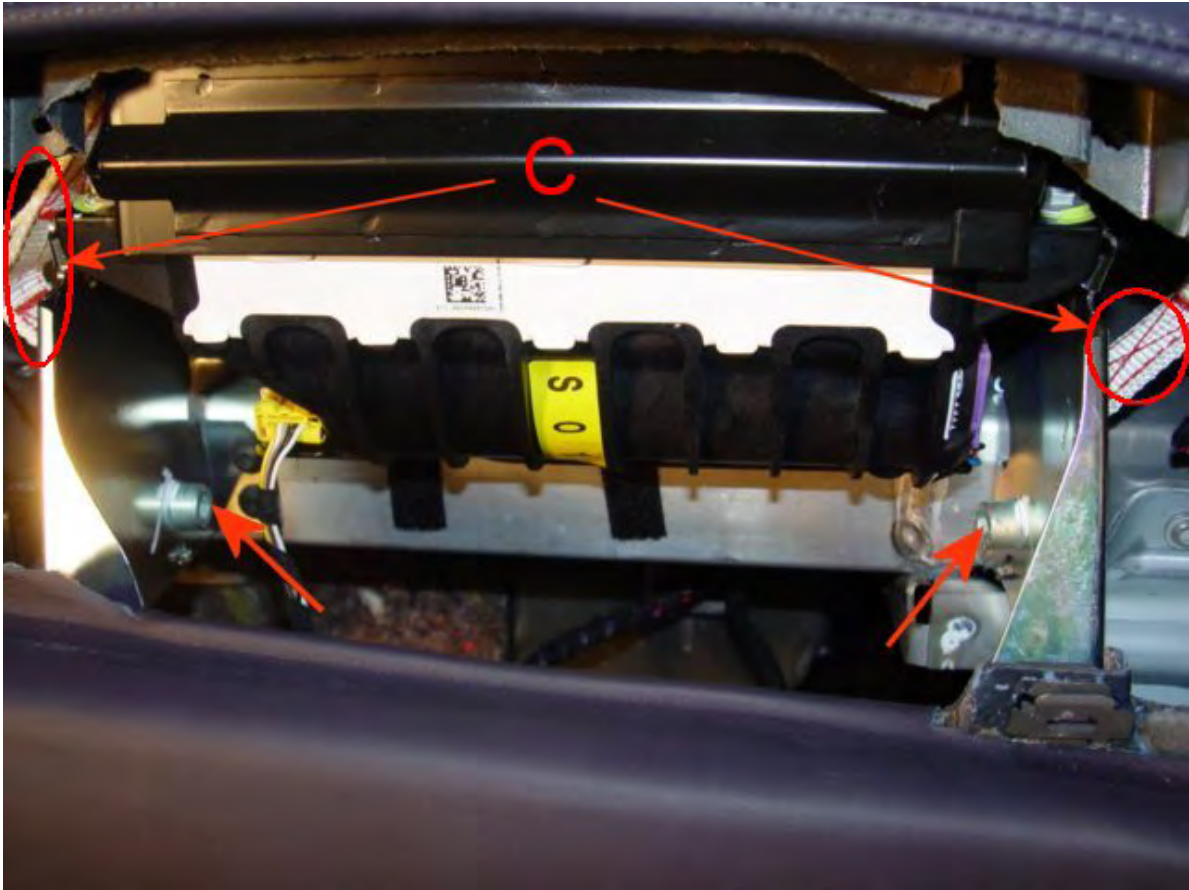

Figure 3
Note: It has been determined that vehicles on the attached VIN list will be fitted with the incorrect tethers. These tethers use red stitching on the webbing (see item C Figure 3). If any other colour stitching is seen on these vehicles, contact the TSC via Hotline Channel. The colour of the stitching is not indicative of incorrect parts on vehicles outside of this Bulletin.
3. Remove the two M10 fasteners securing the trimmed cover tethers to the instrument panel (see Figure 3)
10. Secure the two tethers to the instrument panel torque tighten M10 bolts to 15Nm (see Figure 3)
Caution: Ensure the M10 tether retaining bolts are torque tightened before fitting the veneer panel, operation 10 (see Figure 3)